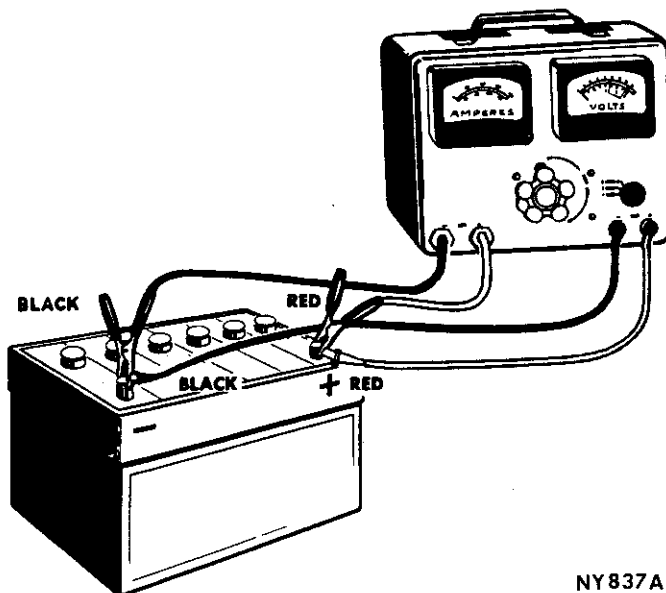

Fig. 4—High Rate Discharge Test
- (1) Turn control knob of Battery-Starter-Tester to OFF position.
- (2) Turn Voltmeter Selector Switch to the 16 volt position on test units so equipped.
- (3) Connect test ammeter and voltmeter positive leads to battery positive terminal. Connect ammeter and voltmeter negative leads to battery negative terminal (Fig. 4). **Voltmeter clips must contact battery posts or cable clamps and not ammeter lead clips.**
- (4) Turn control knob clockwise until ammeter reading is equal to three times ampere hour rating of battery.
- (5) Maintain this load for 15 seconds; voltmeter should read 9.5 volts or more, which will indicate that the battery has good output capacity.
- (6) After the 15 second test, turn Battery-Starter-